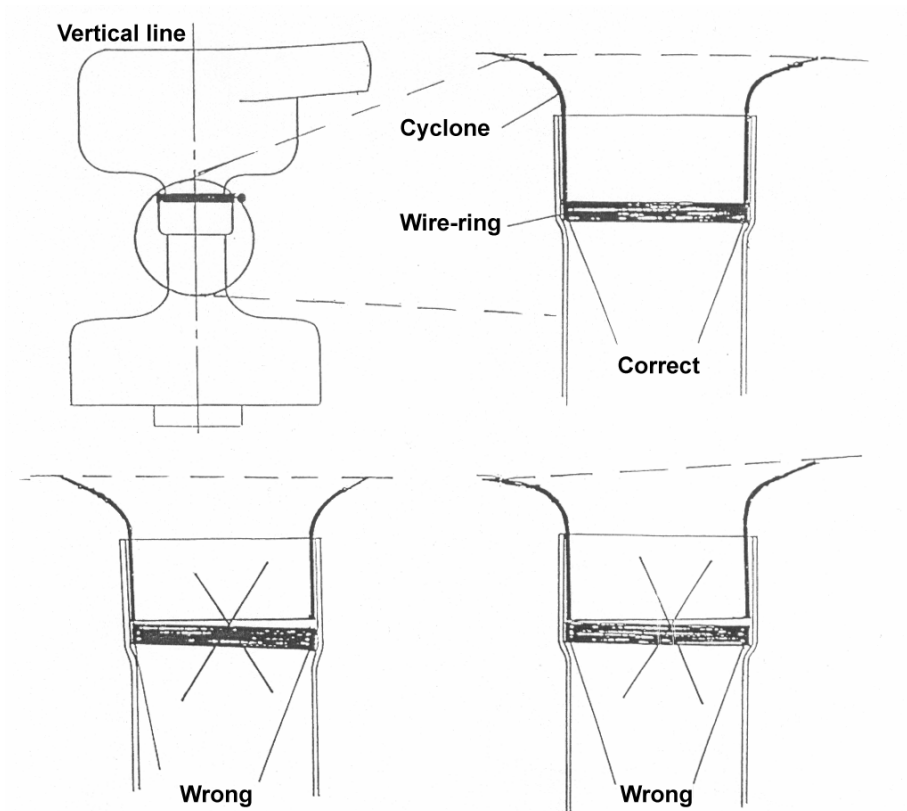
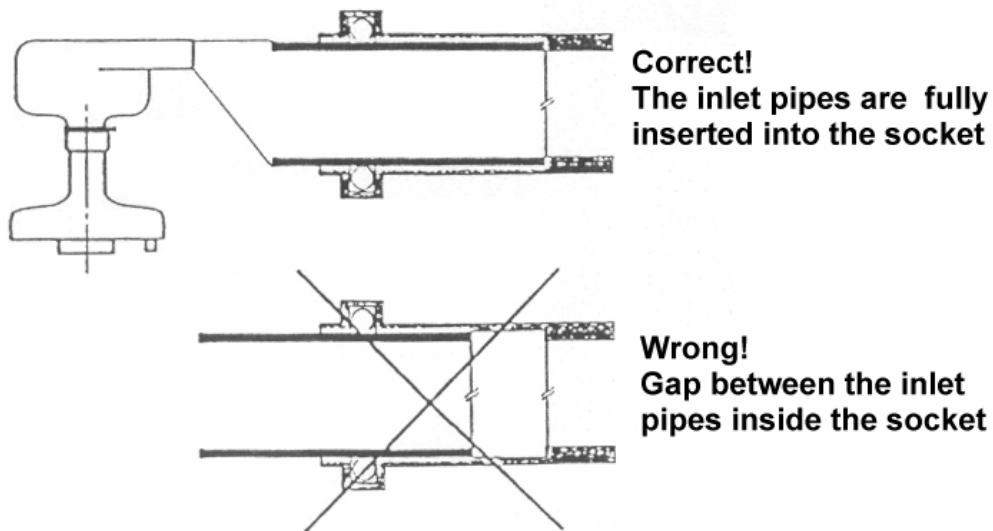

Figure 3: Separator installation
Figure 6: Connecting Separator and inlet pipe in coupler double socket
- clip just as much as needed to keep the upper and lower parts of the Separator together. There must be no space between the Cyclone and the Wire-ring, see Figure 3.
- 4.2.3 The Separator must be installed in a vertical position, see Figure 3.
- NOTE:** The Separator must be horizontal and its vertical line (Figure 3) perpendicular to the Bio Chamber. The inlet pipe must be fully inserted into the socket. See Figure 6.
- 4.5.6 The pipe installation from Separator to Bio Chamber and further on to the UV-unit/sewer is shown in Figure 9. If the UV unit is to be positioned to the left of the Bio Chamber (as seen from the rear side in Figure 3), the piping can be reversed. For Aquatron 90, please see text in Figure 9.
- The inlet of the Separator is not fully inserted into the socket	Adjust, see Figure 6.